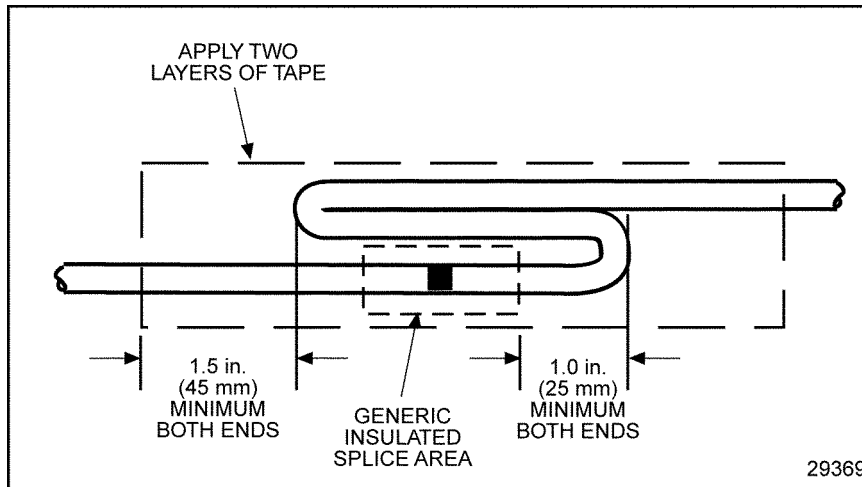

Figure 17-16 Recommended Strain Relief of Spliced Joint
- Loop the lead back over the spliced joint and tape. See Figure 17-16.
8. Loop the lead back over the spliced joint and tape. See Figure 17-16.
9. Loop the lead back over the spliced joint and tape. See Figure 17-16.